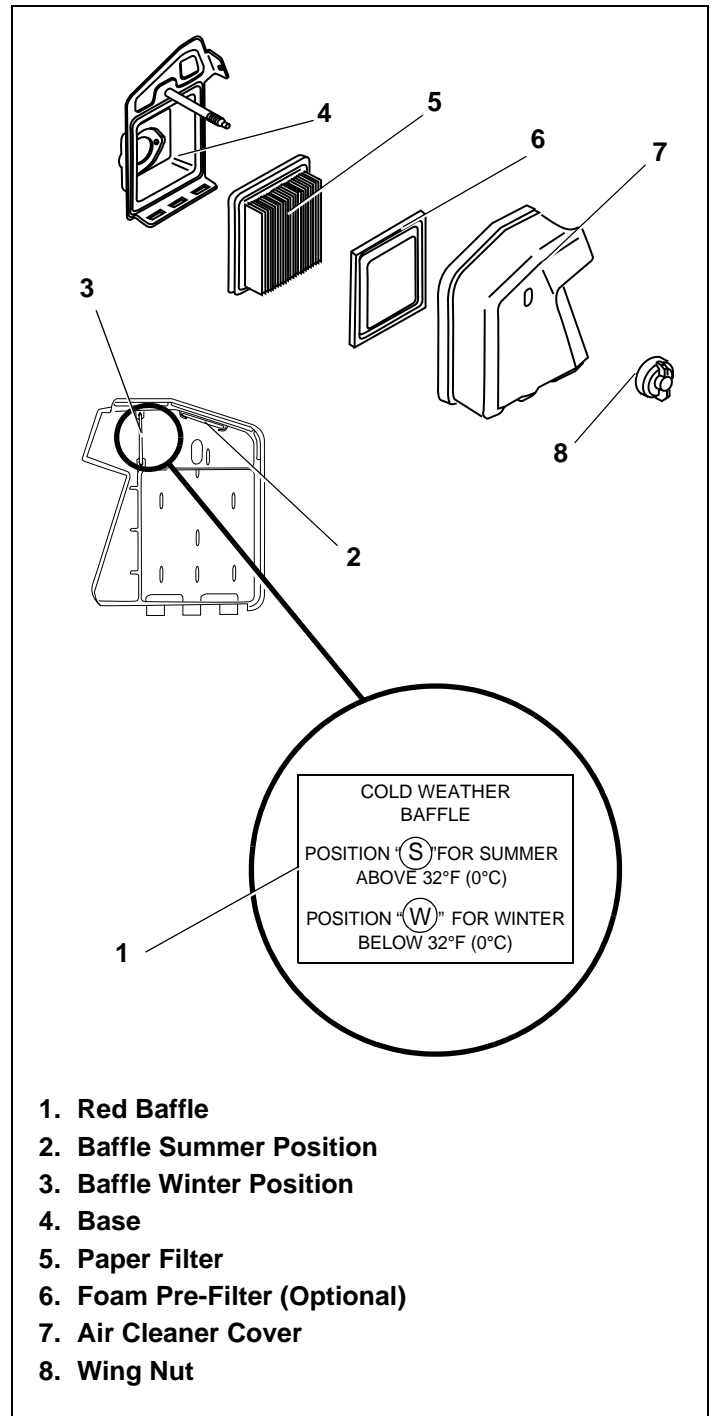

Figure 24. Air Cleaner and Optional Anti-Icing Baffle
1. Remove wing nut and air cleaner cover. See Figure 24.
1. Remove wing nut from air cleaner cover. See Figure 24.